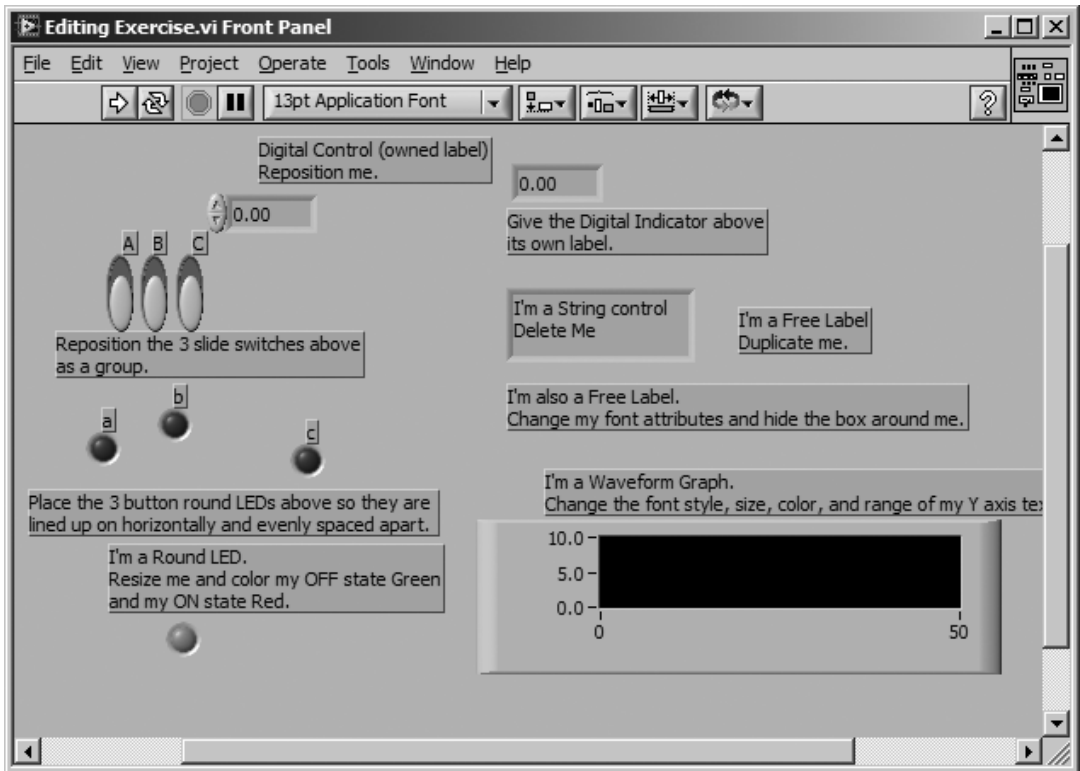

Figure 4.15
1. Open **Editing Exercise.vi**, found in the `EVERYONE\CH4` directory or folder. The front panel of the Editing Exercise VI contains a number of LabVIEW objects. Your objective is to change the front panel of the VI shown in Figure 4.15.